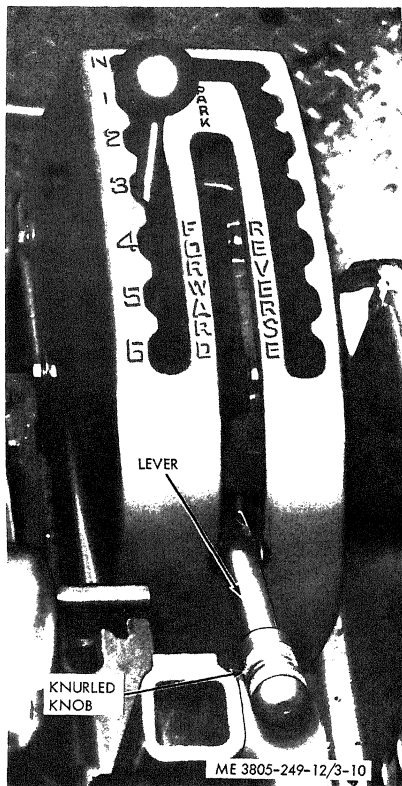

Figure 3-10. Parking brake lever.
a. *Lever Adjustment.* Place the lever (fig. 3-10) in the disengaged position and screw the knurled knob counterclockwise until the knob is tight. Back knob off four turns.